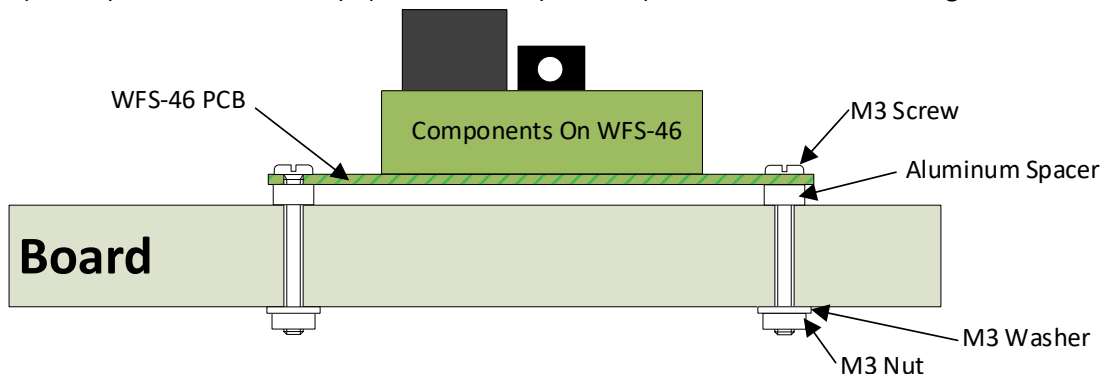

Figure 6 Mounting Suggestion
- (7) Mount the unit to your baseboard using the four M3 metric screws, nuts and spacers provided. Mount the unit on a suitable piece of board, either your baseboard (top or bottom) or a separate board perhaps at the front of your model railroad. The component side of the module should face away from the board as in Figure 6. If you omit the spacers be sure not to tighten screws so that the unit bends. Take care that no part of the unit touches any metal as this may cause a short circuit and result in permanent damage. Do not mechanically stress or bend the module as this may cause permanent damage. **Take care to ensure that there is adequate ventilation to avoid overheating.**
- (8) Turn on the power. If you have installed manual push buttons you may test the unit by pressing each button momentarily in turn. If you have not installed push buttons, refer to the Tower Operator Quick Start, or Full Help Pages for instructions on setting up a schematic control panel on your Windows or Android computer or tablet.
- (6) Mount the unit to your baseboard using the four M3 metric screws, nuts and spacers provided. Mount the unit on a suitable piece of board, either your baseboard (top or bottom) or a separate board perhaps at the front of your model railroad. The component side of the module should face away from the board as in Figure 6. If you omit the spacers be sure not to tighten screws so that the unit bends. Take care that no part of the unit touches any metal as this may cause a short circuit and result in permanent damage. Do not mechanically stress or bend the module as this may cause permanent damage. **Take care to ensure that there is adequate ventilation to avoid overheating.**
- (7) Turn on the power. You may test the unit using the Tower Operator App. Refer to the Tower Operator Quick Start, or Full Help Pages for instructions on setting up a schematic control panel on your Windows or Android computer or tablet.